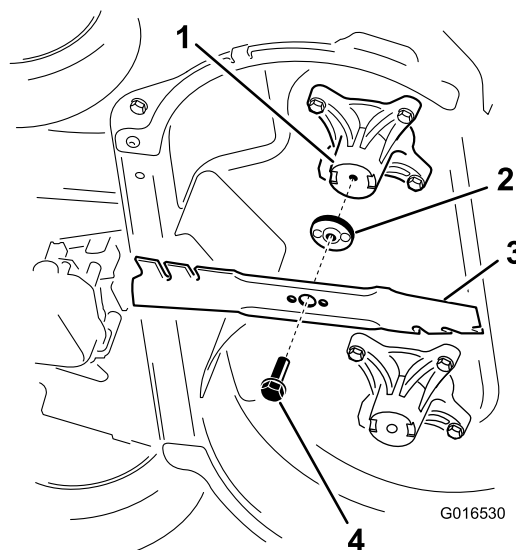

Figure 33
2. Remove each blade as shown in Figure 33.
1. Install the first blade so that it is horizontal, along with all mounting hardware as shown in Figure 33.